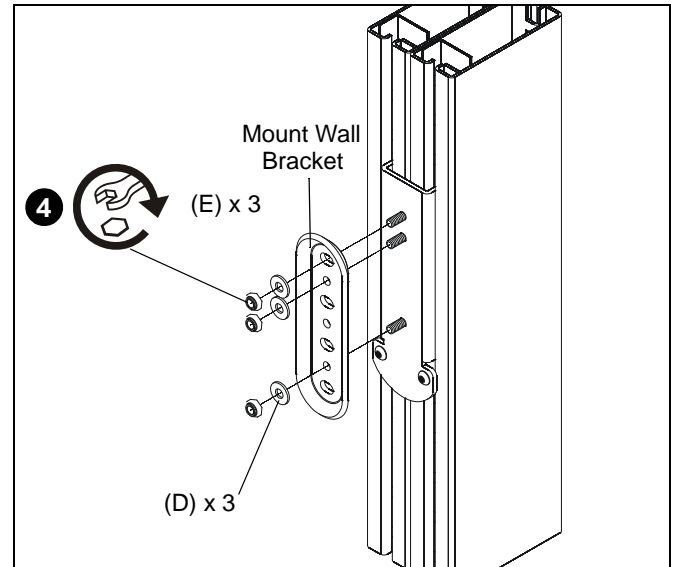

Figure 3
4. Secure mount wall bracket (included with mount) to OFB206 bracket (A) using three #10 flat washers (D) and three 10-24 nylon lock nuts (E). (See Figure 3)